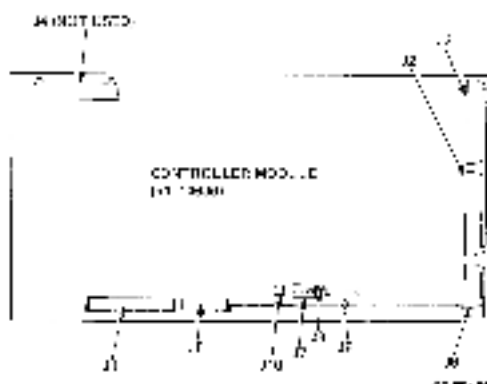

Figure 4-15 Controller Module
4. Release cable connectors and grounds at controller module jacks J1 (drive 0 control cable), J2 (drive 1 control cable), J3 (HDSI cable), J5 (drive 0 read/write cable), J6 (drive 1 read/write cable), J7 (power), J9 (sense), and grounds at J0 (Figure 4-15). Jacks at J1, J2, J3, J5, and J6 are the lock/object type. Grasp two tabs at ends of jack and rotate out. This releases cable connector.
2. Plug appropriate cable and ground connectors into jacks J1 through J3 and J5 through J10 of controller module (Figure 4-15). Jacks at J1, J2, J3, J5, and J6 are the lock/select type. Push cable connector in as far as it will go without forcing. Then grasp two tabs at ends of jack and rotate in. This secures cable connector.
3. Perform this step for master drive only. Rotate controller module up on its hinges to reach connecting plugs. On controller module, remove cable connectors at jacks J2, J3, and J6 (Figure 4-15). Jacks J2, J3, and J6 are the lock/eject type. Grasp two tabs at ends of jack and rotate out. This releases cable connector.
6. Perform this step for master drive only. On the controller module, plug in cable connectors at jacks J2, J3, and J6 (Figure 4-15). Jacks J2, J3, and J6 are the lock/eject type. Push cable connector in as far as it will go without forcing. Then grasp two tabs at ends of jacks and rotate in. This seats cable connector. Rotate controller module back down so it lays flat against drive module standoff legs. Make sure cables attached to rear plate are folded in and out of the way of the cover.
7. Perform this step for master drive only. On the controller module, plug in cable connectors at jacks J2, J3, and J6 (Figure 4-15). Jacks J2, J3, and J6 are the lock/eject type. Push cable connector in as far as it will go without forcing. Then grasp two tabs at ends of jack and rotate in. This seats cable connector. Rotate controller module back down so it lays flat against drive module standoff legs. Move tape cables attached to rear bezel are folded in and out of the way of the cover.